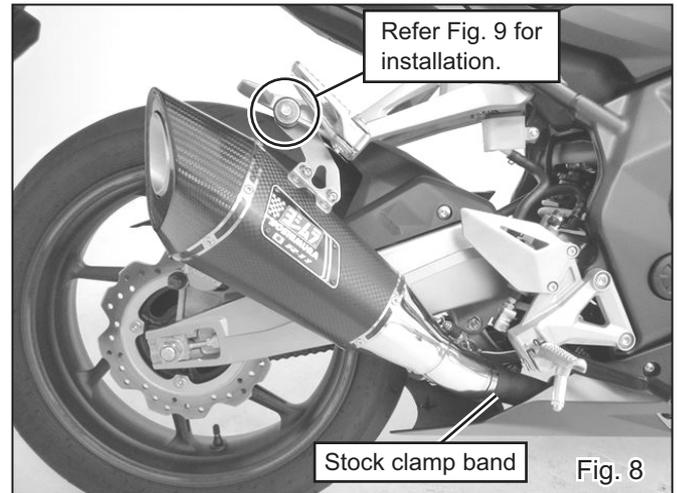

Fig. 8
9) Install Silencer Assy and Tailpipe (assembled at Step. 8) to stock tailpipe. Align Tailpipe front end and pipe stopper on stock tailpipe. Tighten the bolt on stock clamp band by hand only at this stage (See Fig. 8 & 9).
10) Mount Silencer Assy to stock silencer bracket with stock bolt, washer and nut (See Fig. 8 & 10). Tighten the bolt by hand only at this stage.